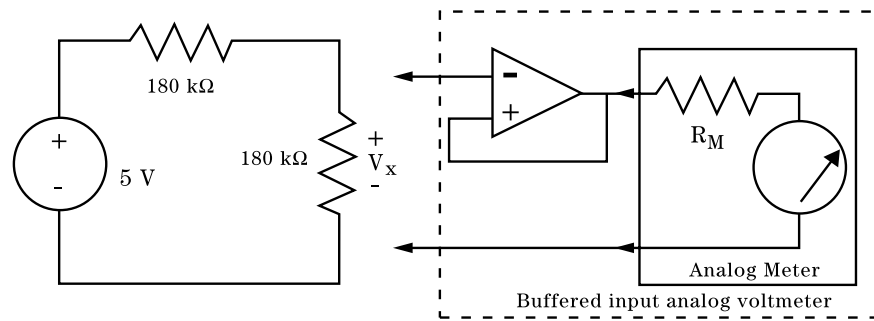

Figure 3
- c. In this exercise you will build an interface circuit using an OP AMP follower (or buffer amp), which substantially improves voltage measurements using the AMM (analog multimeter). In your lab journal, explain why the voltage read by the buffered analog voltmeter in Fig. 3 will be 2.5 V.
- a. Insert the OP AMP follower as an interface circuit between the source circuit and the AMM as shown in Fig. 3.